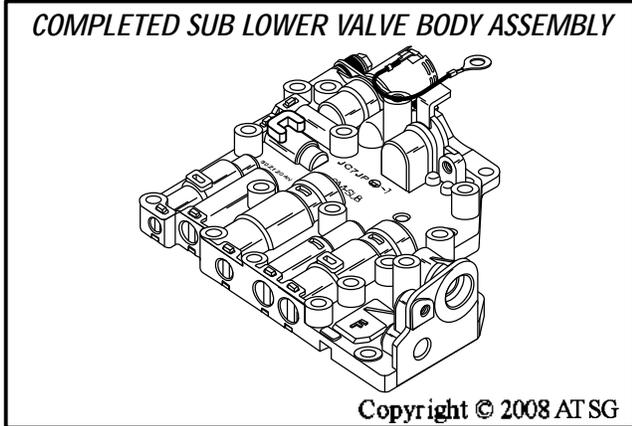

Figure 162
8. Set completed sub lower valve body assembly aside for final valve body assembly, as shown in Figure 162.